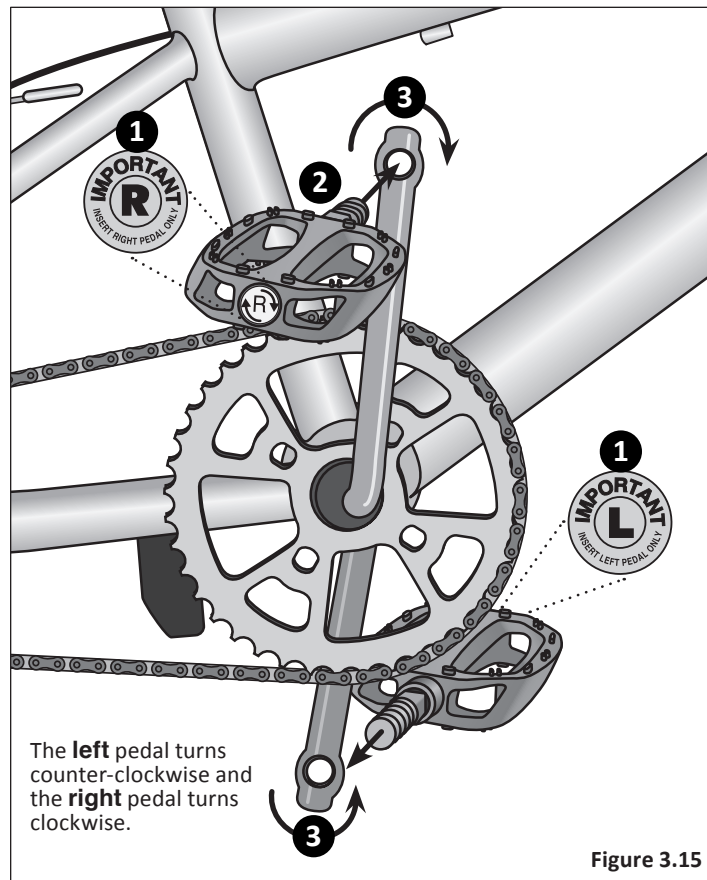

Figure 3.15
**1** Match the pedal marked **R** with the right-hand crank arm, and match the pedal marked **L** with the left-hand crank arm. **Figure 3.15**